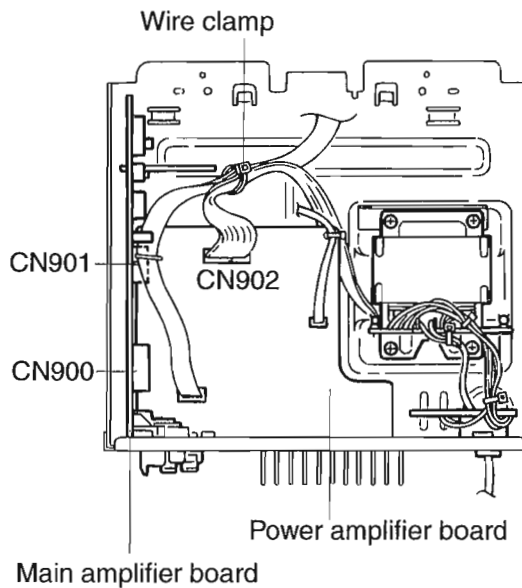

Fig. 3-13
7. Disconnect the parallel wires protruding from the power supply board from connector CN902 on the power amplifier board.(See Fig. 3-13)